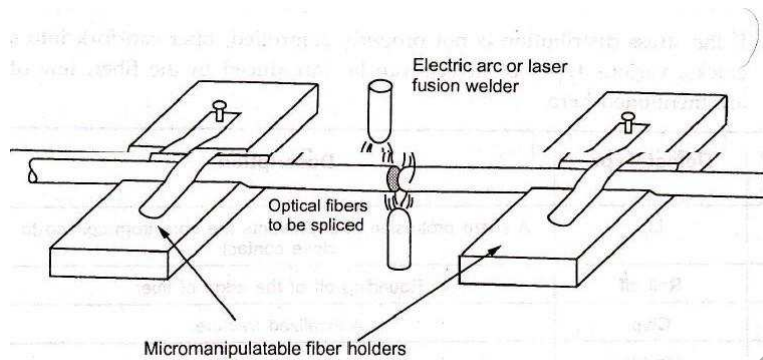

Fig. 4.2.1 Fusion splicing of optical fibers
- x Fiber ends are first prealigned and butted together under a microscope with micromanipulators. The butted joint is heated with electric arc or laser pulse to melt the fiber ends so can be bonded together. Fig. 4.2.1 shows fusion splicing of optical fibers.